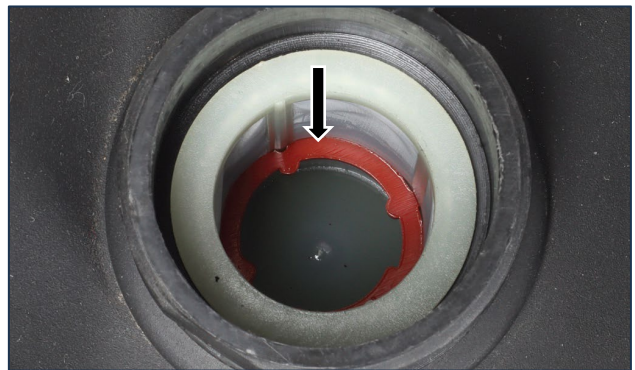

Figure 24 Install the Fuel Strainer
6. Install the fuel strainer by hand inside the filler hole on top of the fuel tank (see Figure 24). Make sure it is fully inserted into the opening.